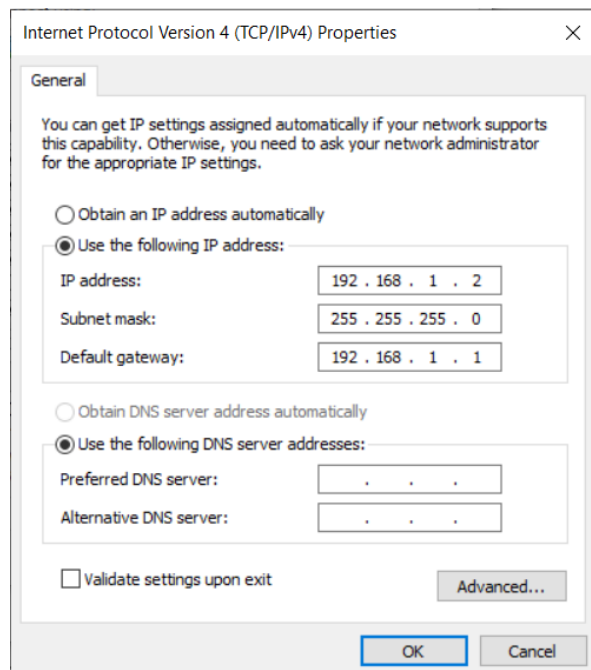

Figure D.5. Configure the Settings
- Configure the IP address, subnet mask, and default gateway settings as shown in Figure D.5 and then click **OK**.